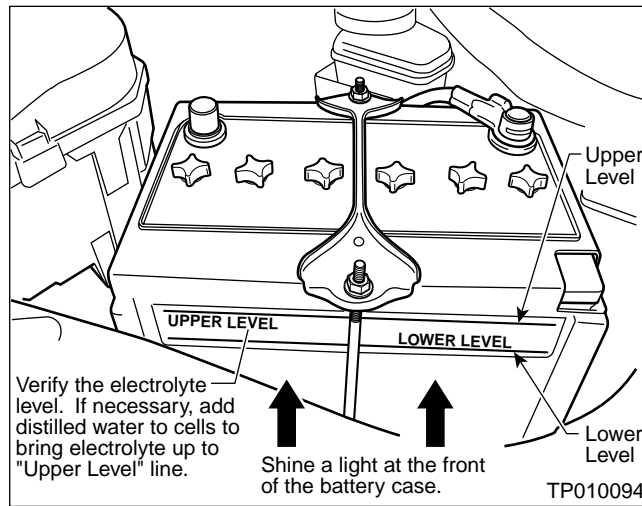

Figure 1
- 1) Shine a light at the front of the battery case and determine the electrolyte level mark on the face of the battery case (see Figure 1).
- 2) Verify that the electrolyte level is up to the "Upper Level" mark (see Figure 1).